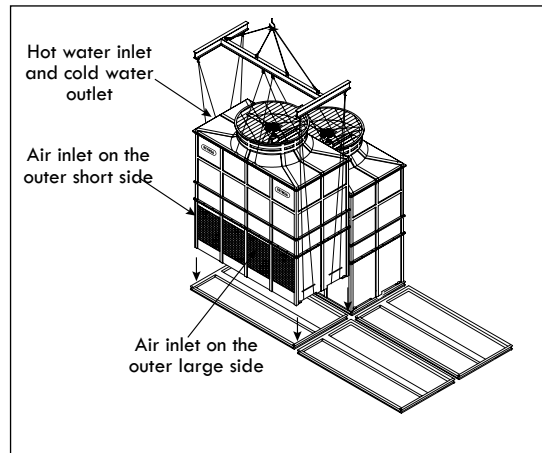

Figure A-104: X-Orientation - Second T2 module lifting and installation (RTGM and RTGMT-C Models)
- C. Lift the second module and place it on top of the isolation pad and the steel structure, making sure that the side without air inlets is facing inward, parallel to the long side of the first module, and that the water inlet and outlet are facing outward. Secure it with the galvanized steel nut and bolts sets supplied by others (see Figure A-104).